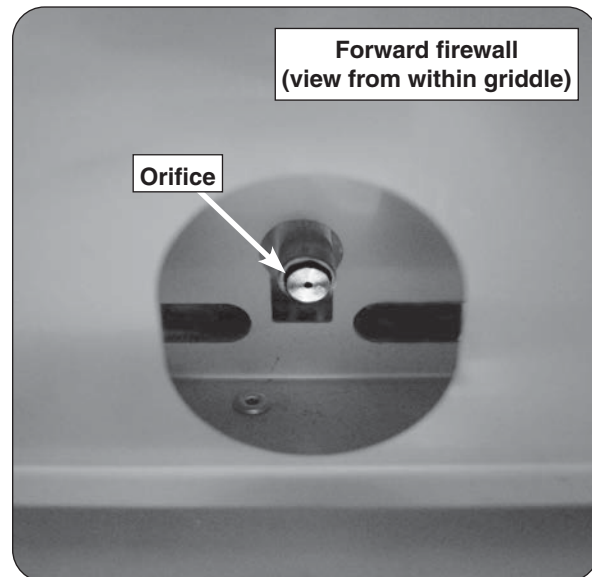

Fig. 32-1 Orifice conversion
3. Use a $\frac{3}{8}$ " hex nut driver to remove the exposed orifices (Fig. 32-1). Check orifices. If needed, replace them with the correct orifices for the new gas.